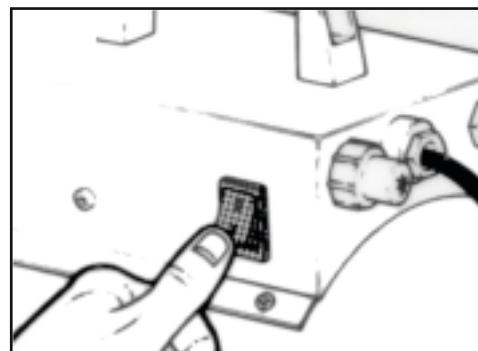

Fig.2
2. Start the fan by means of the white switch (see fig. 2).